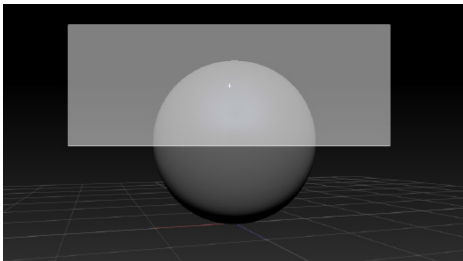
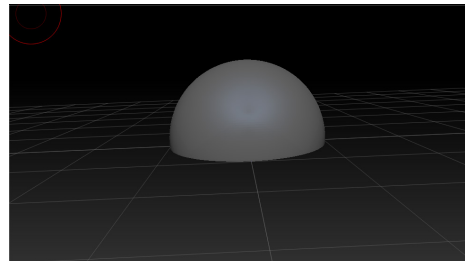

Figure 3-49 Upper part of sphere selected using the marquee selection
Figure 3-50 Lower half of the sphere deleted
4. Press CTRL+SHIFT keys and then press and hold the left mouse button. Next, drag the cursor over the sphere; a rectangular marquee selection appears. Select the upper half of the sphere, refer to Figure 3-49. Now, release the left mouse button; the lower half of the sphere is deleted, refer to Figure 3-50.